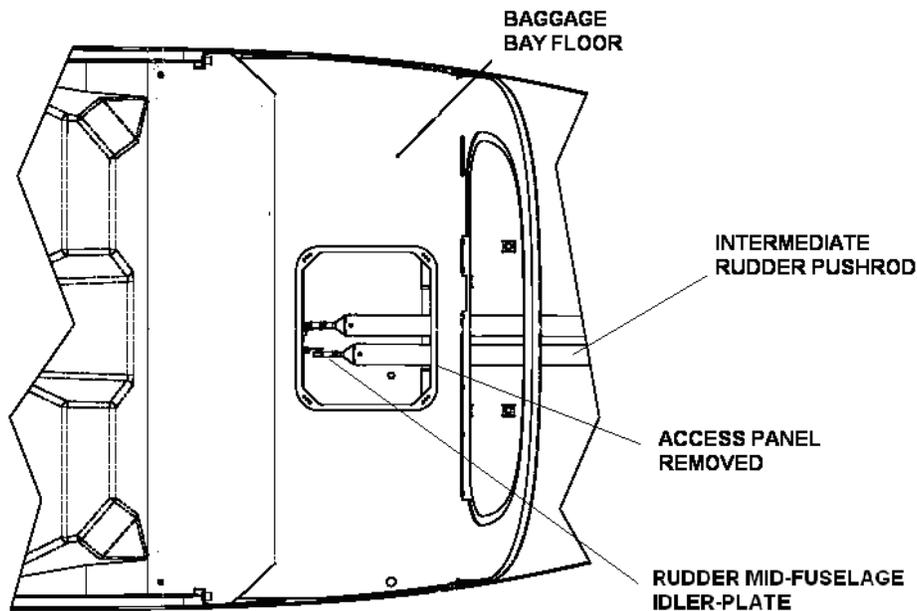

Figure 27-27 Center Idler-plate Access Panel
3. Refer to Figure 27-27. Remove split pin (1) and discard. Remove the nut (2), washers (3 and 4), and bolt (5) from center idler plate (7) and separate forward rudder pushrod (6) from the idler-plate.